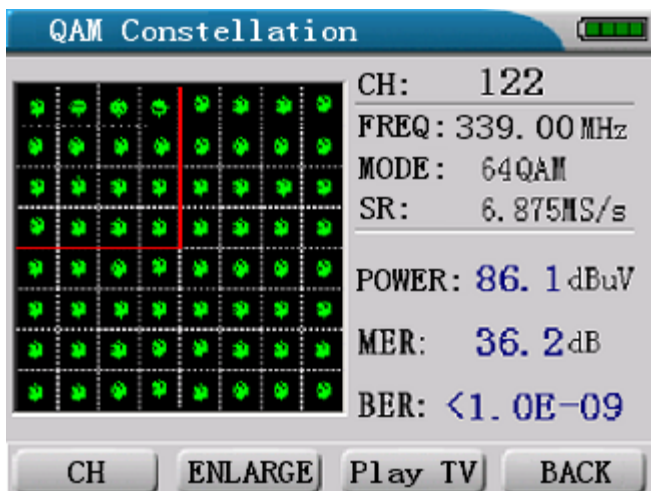

Fig 2-2
When channel table is set to digital channels, under main menu press number key ①, then enter the function of channel measurement. (as shown in fig 2-2)